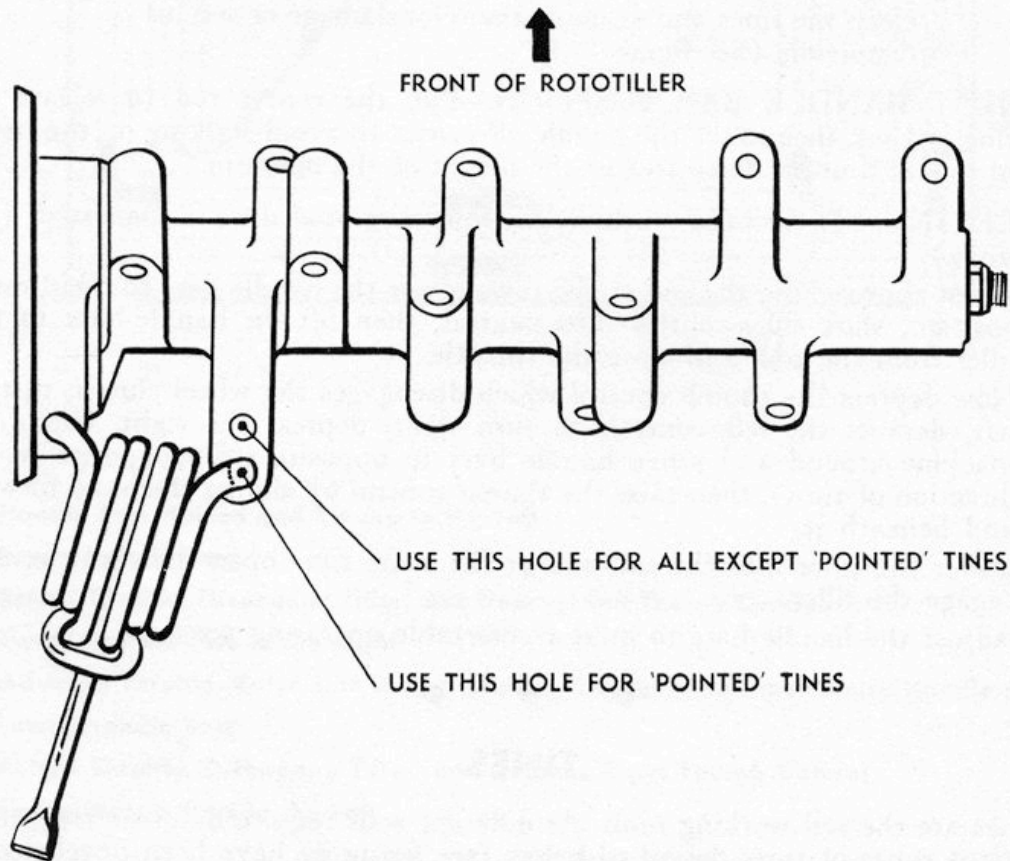

Figure 8. Installing Pointed Tines
When using the Pointed Tine, make sure that the outer prongs of the two center spring holders are installed in the tine holder casting as shown in figure 8. This angular position permits even tillage and helps to eliminate ridges below the center of the drive housing. If installing the Paring or "S" Tine at an angle, be sure that tines clear housing.
- b. **TINE HOLDERS.**—Install tine holders onto casting as shown in figure 8. If necessary, tap spring lightly until cotter pin can be installed.